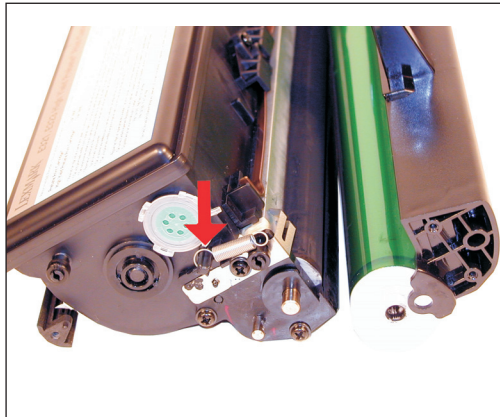

Figure 29
25) Place the large loop of the second spring on the large hopper post. See Figure 29